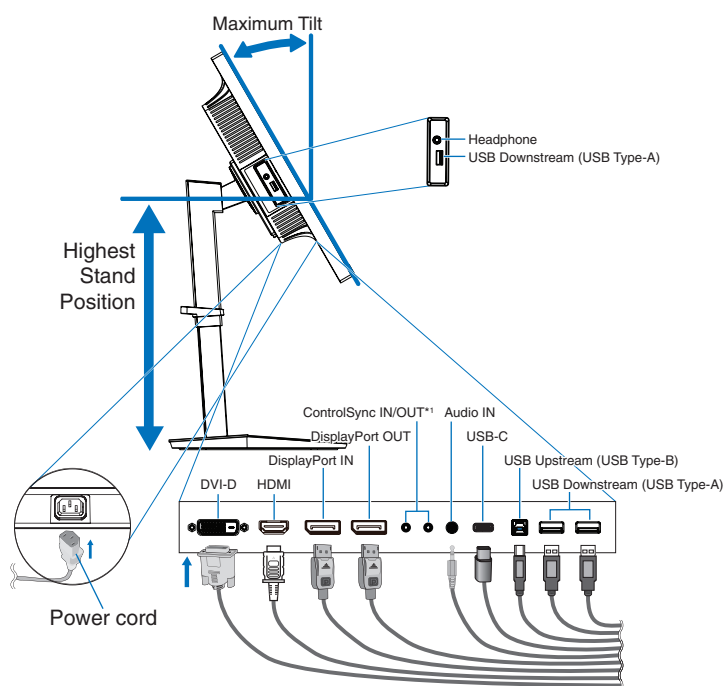
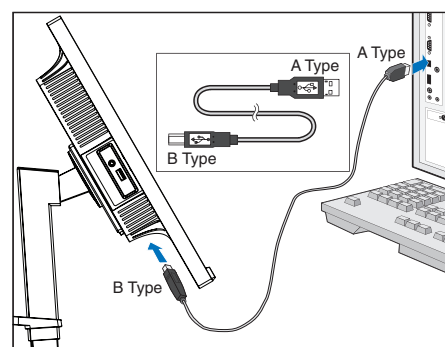

Figure C.1
Figure C.1a
- Connect all cables to the appropriate connectors (**Figure C.1**). When using the USB cable, connect the B type connector to the USB upstream port on the rear side of the monitor and the A type connector to the downstream port on the computer (**Figure C.1a**). If using the cord from a USB device, plug into the downstream port of the monitor.